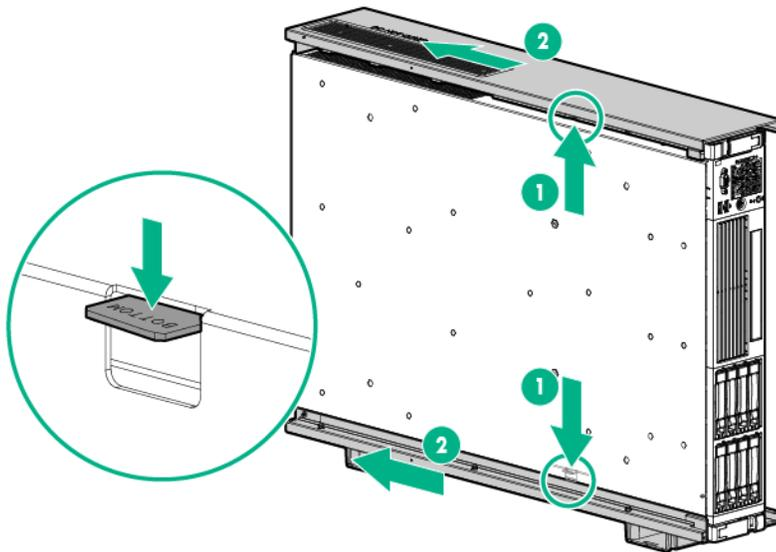

Figure 28: Removing the pedestal top piece
- b. Press the lock release tab on the pedestal top piece away from the chassis to unlock the pedestal top piece from the server. See **Figure 28: Removing the pedestal top piece** on page 142 for the pedestal top and bottom piece lock release locations.